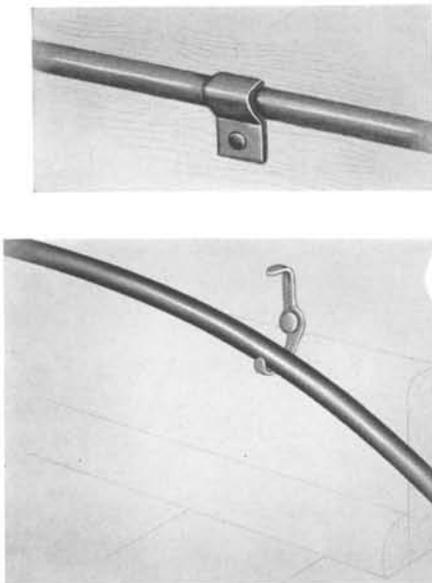

FIG. 16—CABLE CLAMP AND CABLE CLASP
7.02 A Cable Clamp and a Cable Clasp are shown in Fig. 16. Table G indicates the fasteners to be used to attach cable clamps and cable clasps to various surfaces.